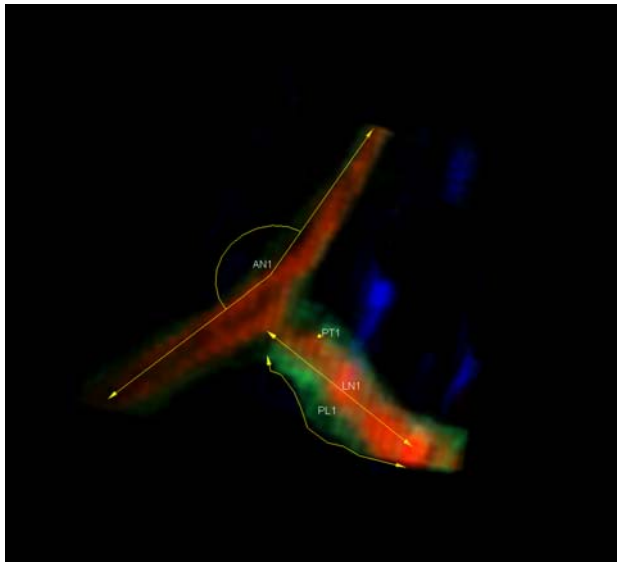

Figure 2. Creating new measurements within a volume. Straight lines (LN1), Poly-lines (PL1), Points (PT1) and Angles (AN1).
-  Click the ‘Point’ tool button to determine the x, y and z coordinates for each point you place in the volume. Click the left mouse button to place each point. (Fig. 2).
-  Click the ‘Line’ tool button to draw a line between two positions within the volume (Fig 2).
-  Click the 'Polyline' tool button to draw a line that 'follows the surface'. Click the left mouse button at each of the locations the line should be placed. Click the right mouse button to anchor the line (Fig 2).
-  Click the 'Angle' tool to draw an angle within the image volume. Click the left mouse button to select the first position, again to select the angle's origin and a third time to define the angle (Fig 2).